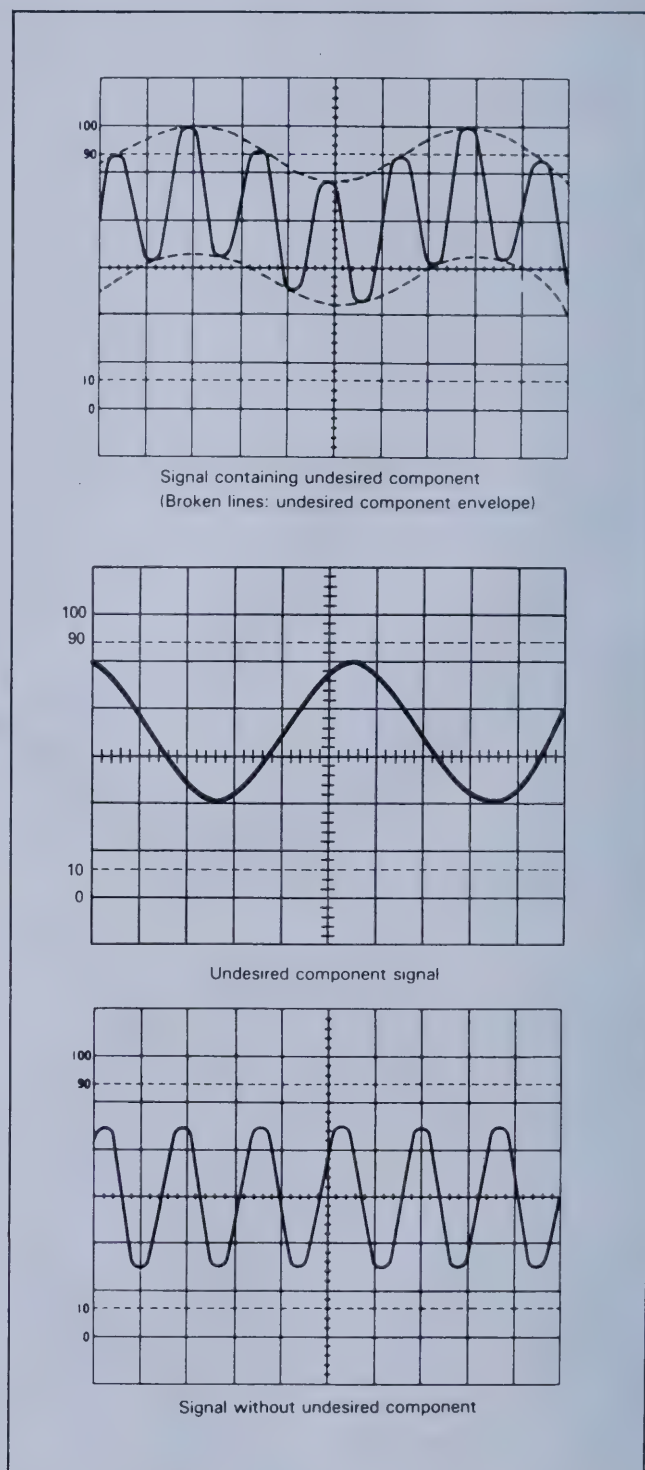

Fig. 7. Eliminating An Undesired Signal Component.
(Refer to Fig. 7)
1. Apply the signal containing an undesired component to the **CH 2 (X)** input jack and the undesired signal itself alone to the **CH 1 (Y)** input jack.
2. Select the **CHOP DUAL**-trace mode and set the trigger **SOURCE** switch to **CH 1**. Adjust the controls to display two signals, such as shown in Fig. 7. Verify that the channel 1 trace represents the unwanted signal in reverse polarity. The polarity may be reversed by engaging the **INV 1** switch.